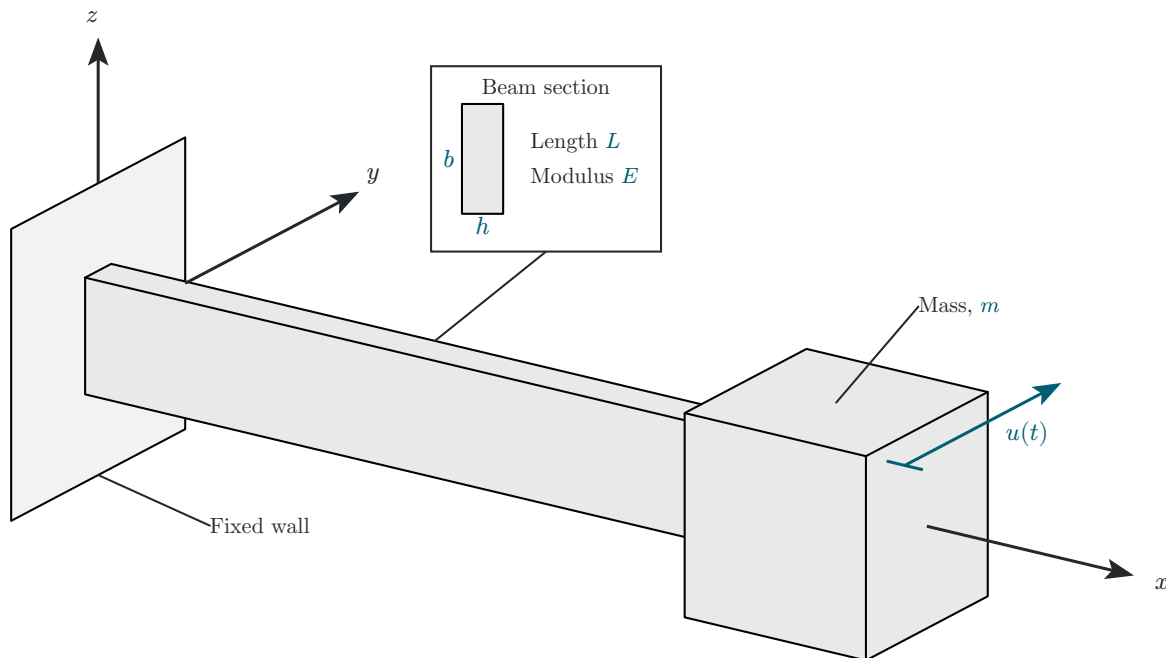

Figure 24: Horizontal flex-beam vibrating system.
Consider a cantilever beam of length L with a mass m attached at its tip as shown in Figure 24. The beam cross-section properties are E , h , b .
- (1) Assume vibration with horizontal time-varying displacement $u(t)$ as shown in Figure 24.
- (2) Calculate the cross-sectional stiffness EI of the beam for flexural deformation consistent with $u(t)$.
- (3) Calculate the flex-beam spring constant k .
- (4) Draw free-body diagram (FBD) including all the forces acting on the mass m .
- (5) Deduce equation of motion (EOM).
- (6) Compare the EOM deduced here with the EOM derived in Problem B.1.
- (7) Solve the initial value problem (IVP) and find the response for simultaneous application of both initial displacement u_0 and initial velocity $\dot{u}_0$.